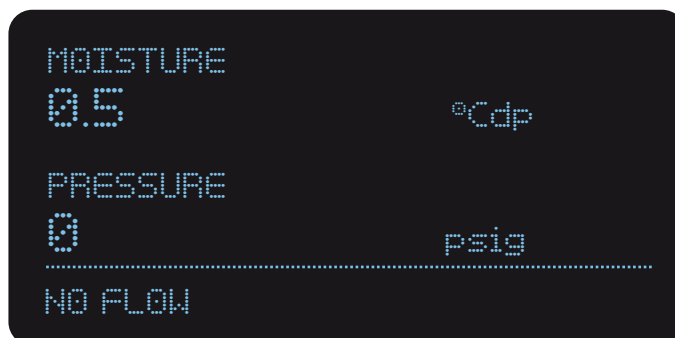

Figure 25 Error Message Line
3. Using a 2.5mm hex key remove the M3 cap head screw (1 in Figure 25) securing the water sensor assembly to the stay bracket.
4. Restrain the sensor assembly. Use a 11mm spanner to loosen and remove the 2 off 1/8" water dew-point sensor sample pipe connections (2 in Figure 25).